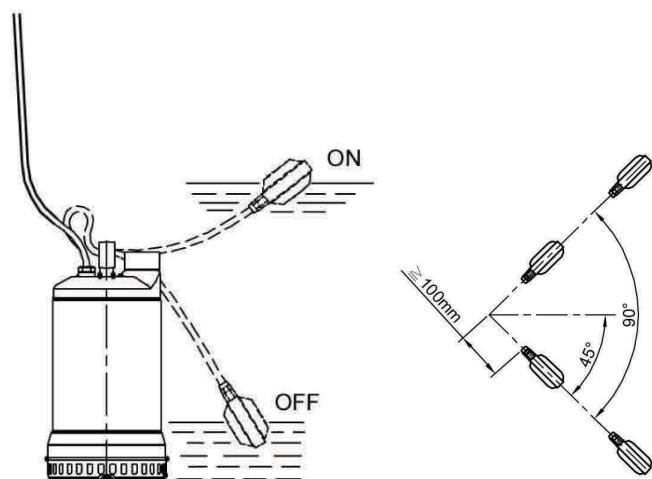

FIG. 2
-  The well dimensions must be such as to prevent an excessive number of starts per hour. (Fig. 2)